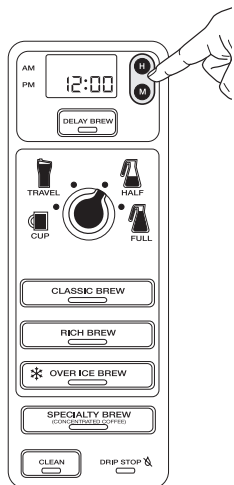

Fig. 1
- 1 Plug the power cord into an electrical outlet. The clock will flash on the control panel to indicate that the time has not been set. **(Fig. 1)**